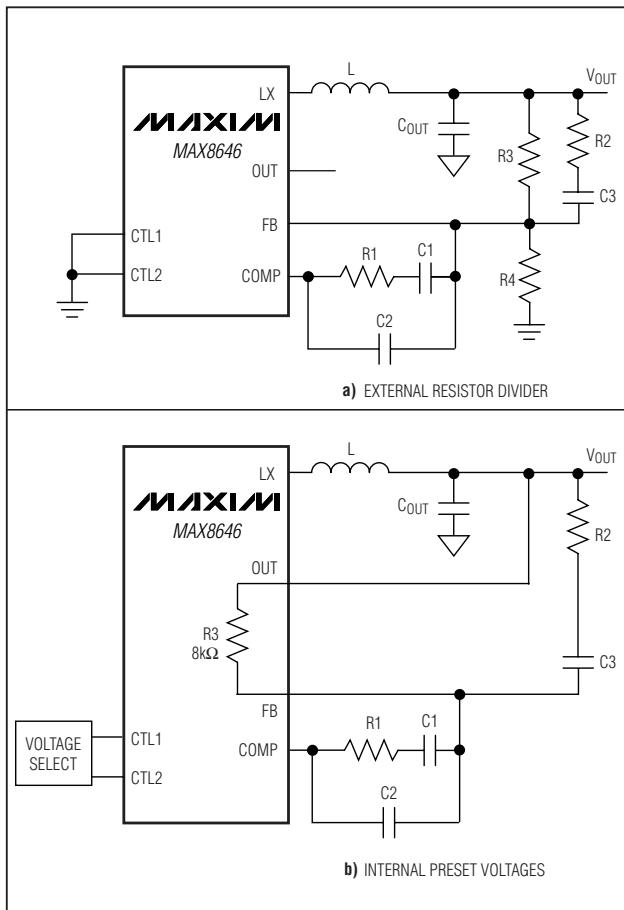

Figure 3. Type III Compensation Network
The UVLO circuitry inhibits switching when VDD is below 2V (typ). Once VDD rises above 2V (typ), UVLO clears and the soft-start function activates. A 100mV hysteresis is built in for glitch immunity. Figure 3 is the type III compensation network.
The high switching frequency range of the MAX8646 allows the use of ceramic output capacitors. Since the ESR of ceramic capacitors is typically very low, the frequency of the associated transfer function zero is higher than the unity-gain crossover frequency, f_C , and the zero cannot be used to compensate for the double pole created by the output filtering inductor and capacitor. The double pole produces a gain drop of 40dB/decade and a phase shift of $180^\circ/\text{decade}$. The error amplifier must compensate for this gain drop and phase shift to achieve a stable high-bandwidth closed-loop system. Therefore, use type III compensation as shown in Figures 3 and 4. Type III compensation possesses three poles and two zeros with the first pole, f_{P1_EA} , located at zero frequency (DC). Locations of other poles and zeros of the type III compensation are given by: